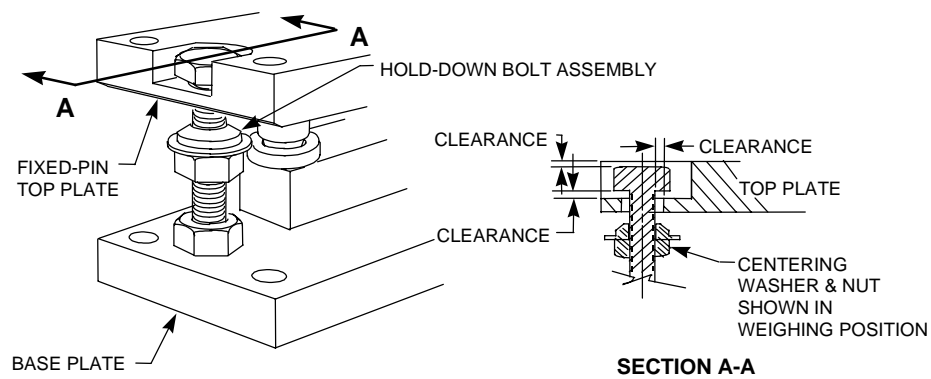

Figure 3-3: Flexmount Hold-Down Bolt Assembly
8. After all the top plates are down and applying load to the load cells, make sure there is adequate clearance between the hold-down bolt and top plate. See Figure 3-3, Hold-Down Bolt Assembly.